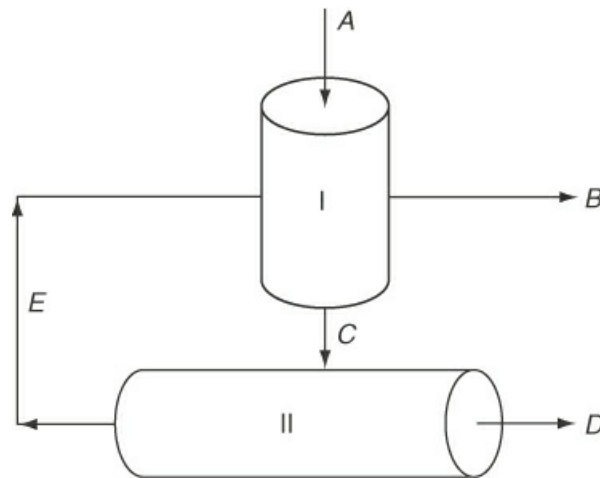

Figure P5.3.4
****5.3.4** In the process shown in Figure P5.3.4, unit I is a liquid-liquid solvent extractor and unit II is the solvent recovery system. For the purposes of designing the size of the pipes for streams C and D, the designer obtained from the given data values of $C = 9630$ lb/hr and $D = 1510$ lb/hr. Are these values correct? Be sure to show all details of your calculations or explain if you do not use calculations.